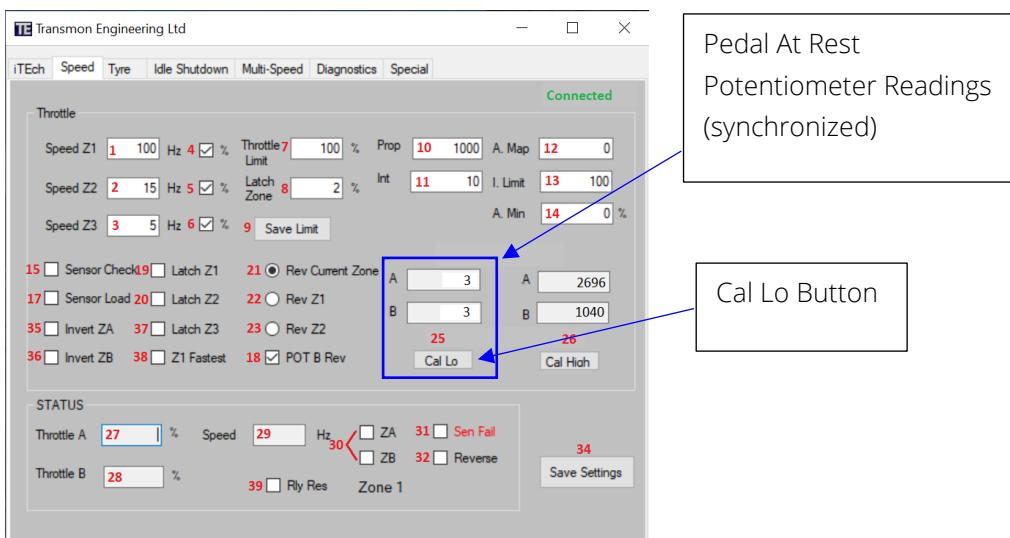

Figure 10: Pedal At Rest Low Calibration Readings and Button
- With the **accelerometer pedal at rest (not depressed)**, click **Cal Lo button** (see Figure 10)